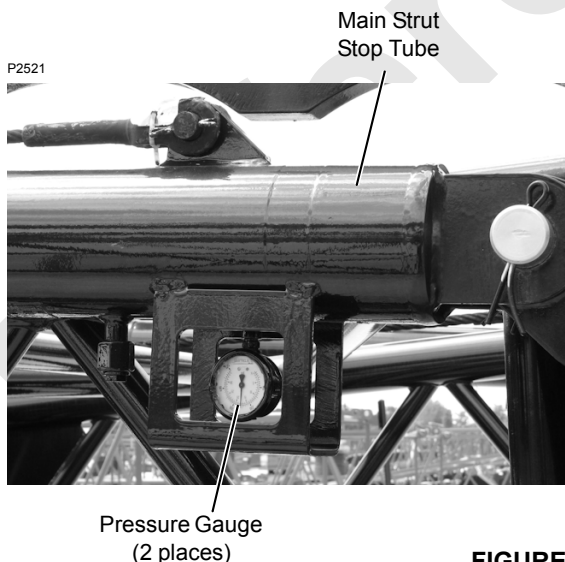

FIGURE 3-8
5. Before raising boom and jib, verify that pressure in main strut stop cylinders (Figure 3-8) is at proper setting. For detailed instructions, see Section 4. If pressure is not within specified range, contact your Manitowoc dealer for assistance.